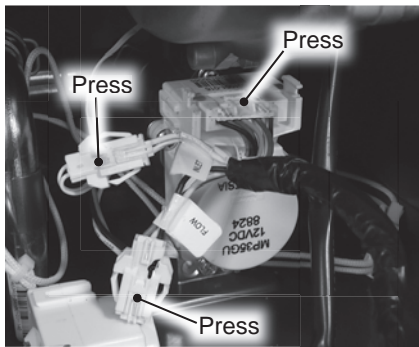

Figure 213 - Locating wiring harnesses
16 Locate the flow control valve at the bottom right side of the water heater as shown in Figure 213. Disconnect the three (3) wiring harnesses from the valve marked:
22 Reconnect the three (3) wiring harnesses to the flow control valve previously disconnected in **Step 16**. Confirm wiring connections are secure. See Figure 213.